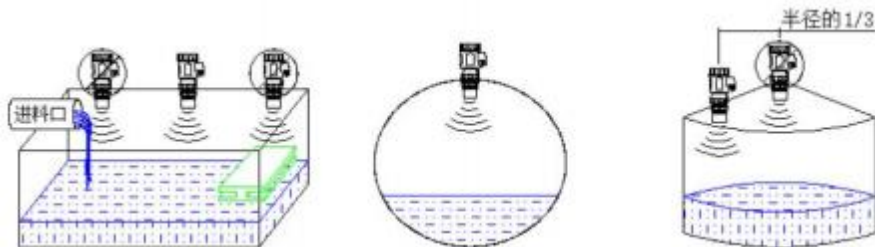

Figure 2
7.1.2 The shape of the container must be considered during probe installation. Incorrect installation may cause secondary echoes in containers of specific shapes, particularly those with conical or spherical tops. These configurations can refocus and amplify transmitted echoes, leading to erroneous readings. Proper installation positioning resolves this issue; see Figure 2.